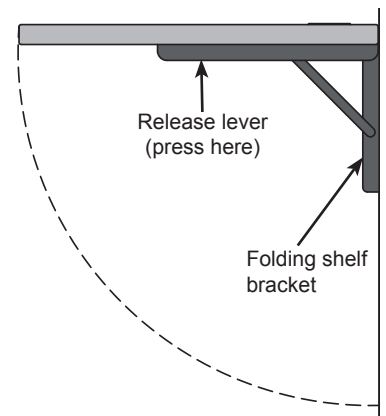

Figure 4A
2. Extend and lock the folding shelf brackets into the horizontal position. **Figure 4A.**
The shelf will automatically lock into place when lifted into the horizontal position with the levers released. **Figure 4A.** To lower or flip-up the shelf, press and hold the levers under each folding shelf bracket at the same time while slowly lowering or raising the shelf. Do not exceed a maximum of 50 lb of weight on the shelf. Do not move the unit while the shelf is in the horizontal position.